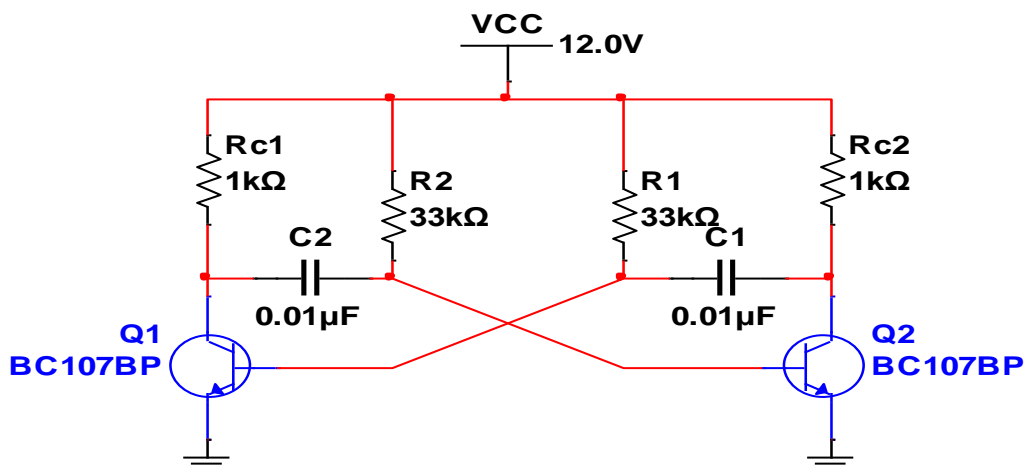

Figure10.1: Astable Multivibrator
10.1 Simulate an astable multivibrator as shown in figure 10.1 using MULTISIM and plots output waveforms.